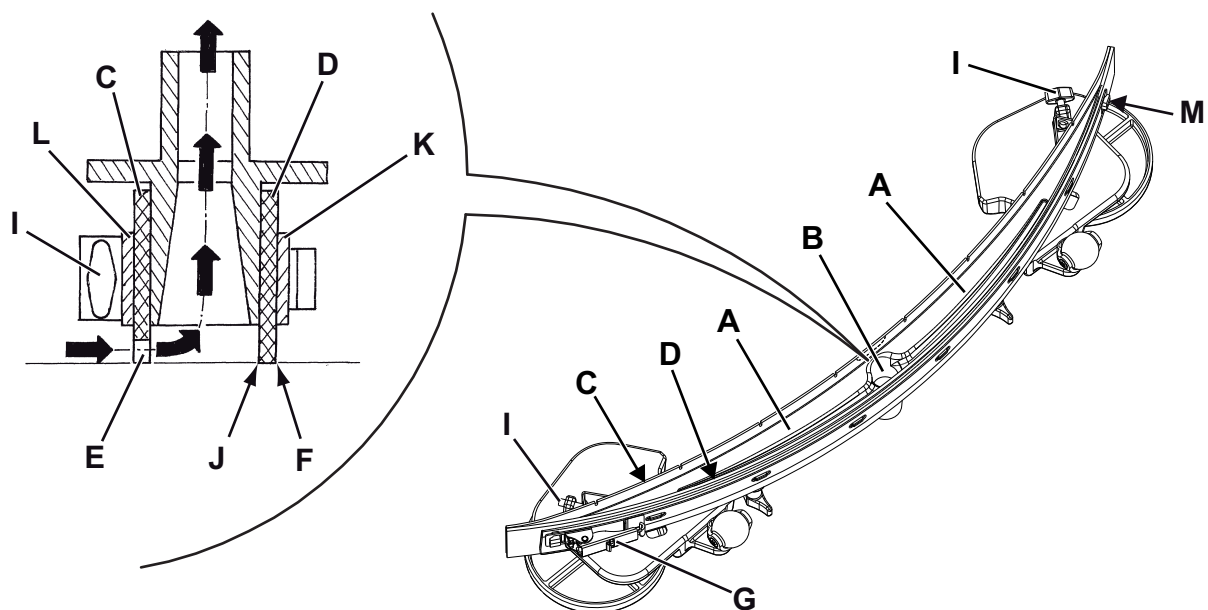

Figure 6
2. Insert the ignition key (58) and turn it to "I".
3. Lower the squeegee (30) by pressing the switch (63).
4. Turn the ignition key (58) to "0".
5. Disconnect the vacuum hose (31) from the squeegee.
6. Loosen the handwheels (34) and remove the squeegee (30).
7. Wash and clean the squeegee. In particular, remove dirt and debris from the compartments (A, Fig. 6) and the hole (B). Check that the front blade (C) and the rear blade (D) are integral and free from cuts and lacerations; if necessary replace them.
1. Clean the squeegee (Fig. 6) as shown in the previous paragraph.
2. Check that the edge (E) of the front blade (C) and the edge (F) of the rear blade (D) lay down on the same level, along their length; otherwise adjust their height according to the following procedure:
- Remove the tie rod (G), disengage the fastener (M) and adjust the rear blade (D); then engage the fastener and install the tie rod.
- Loosen the handwheels (I) and adjust the front blade (C); then tighten the handwheels.
3. Check the front blade (C) and rear blade (D) for integrity, cuts and tears; if necessary replace them as shown below. Check the front corner (J) of the rear blade for wear; if necessary, overturn the blade to replace the worn corner with an integral one. If the other corners are worn too, replace the blade according to the following procedure:
- Remove the tie rod (G), disengage the fastener (M) and remove the retaining strip (K), then replace/overturn the rear blade (D).
- Unscrew the handwheels (I) and remove the retaining strip (L), then replace the front blade (C).
4. Connect the vacuum hose (31) to the squeegee.